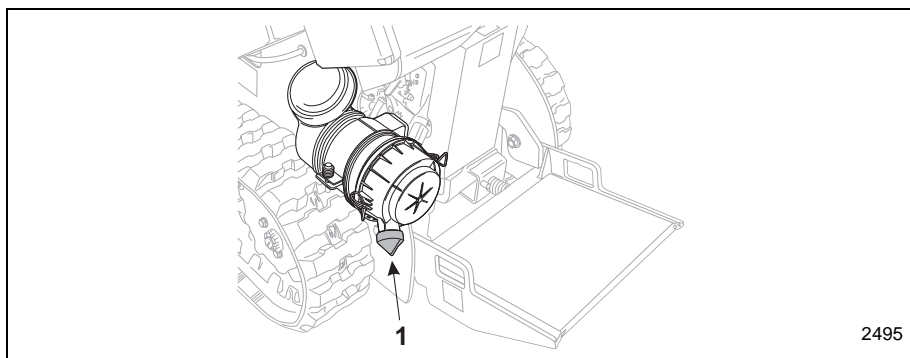

Figure 3-7 Release Dirt from Air Cleaner
7. Release dirt from separator tube at the bottom of the air filter by squeezing the rubber dust ejector valve (Item 1, Figure 3-7) underneath the air filter.